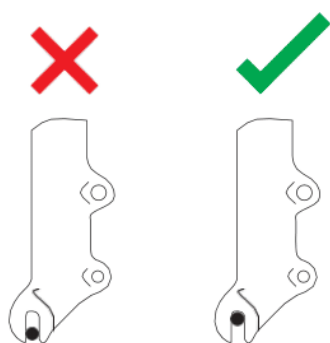

Figure 1
- If they are ever removed for maintenance and or repairs, make sure that the front and rear wheel wheels are reinstalled correctly with their axles fully seated as shown in figures 1 and 2 below. Note that the rear wheel requires a 19mm wrench for removal and installation.